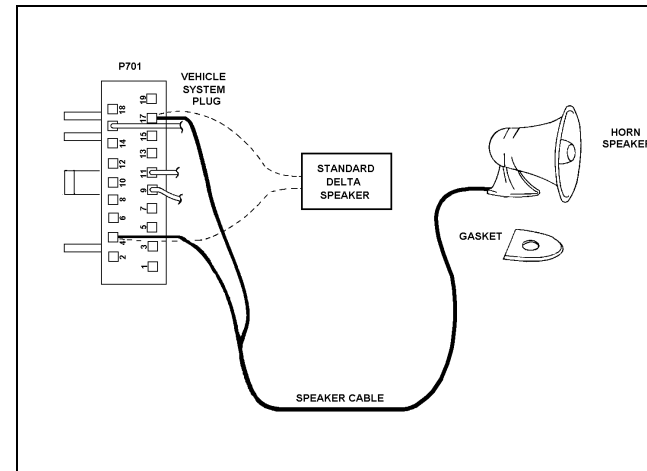
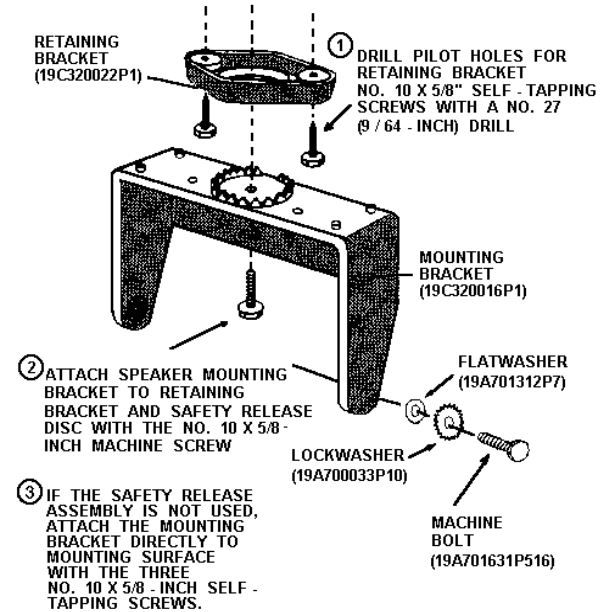

FIGURE 2 - INTERNAL/EXTERNAL SPEAKER AND PUBLIC ADDRESS
FIGURE 3 - MOUNTING THE STANDARD SPEAKER
2. Refer to Figure 2 and connect speaker wires to P701-2 and -19.
When installing the speaker, use the mounting bracket as a template to locate the mounting holes, and mount the speaker as shown in Figure 2. Refer to Figure 3 and connect the speaker leads to P701-4 and -17 on the Vehicle System Plug.